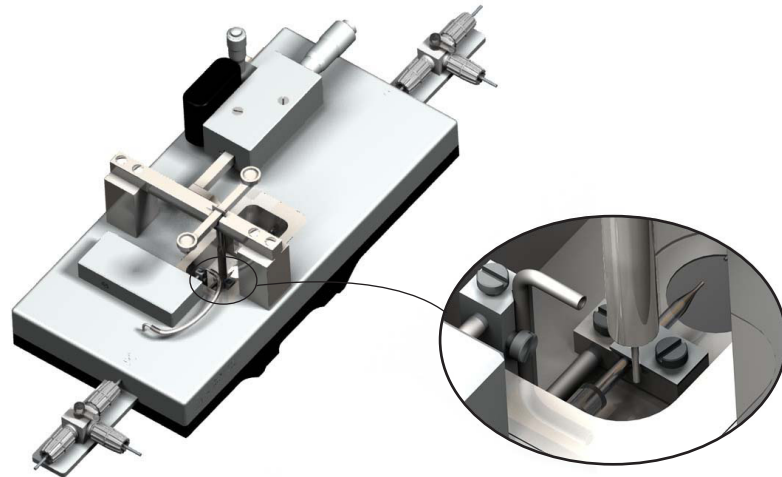

Figure 5.10 Illustration of how to fit the balance just behind the glass cannula fixation plate
4. Make sure that the tip of the “transducer arm” on the balance is placed behind the glass cannula fixation plate as illustrated in fig. 5.10. Carefully move the